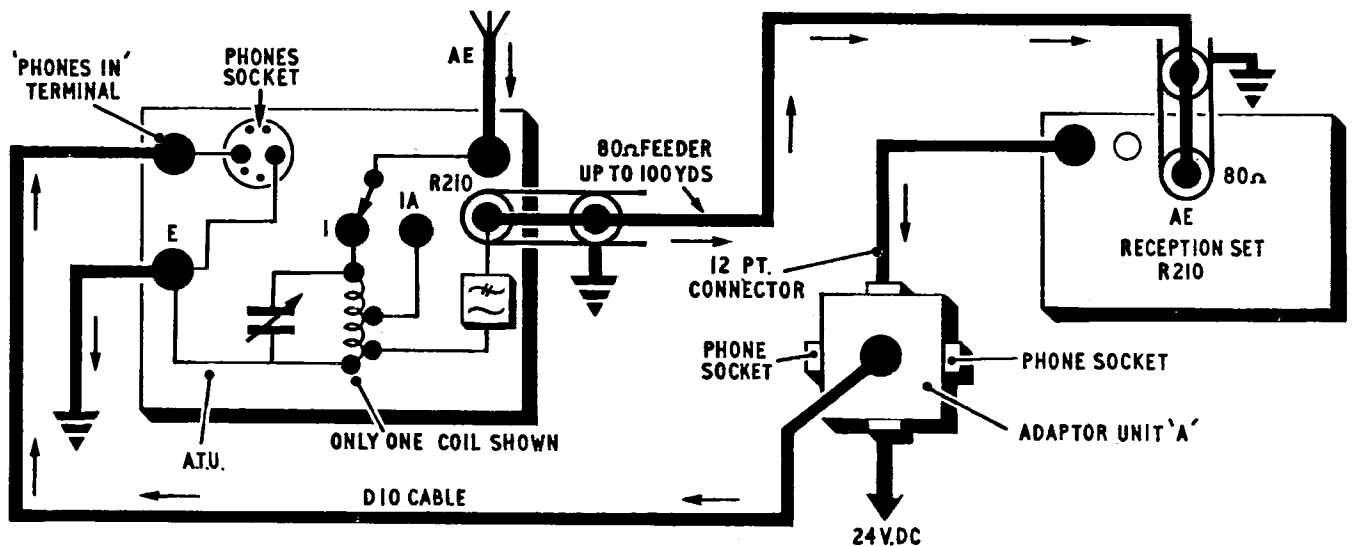

FIG. 21. CONNECTIONS FOR REMOTE OPERATION
For remote operation, using DC supply, the connection between the reception set and the aerial tuning equipment is as shown at Fig. 21.
With the reception set tuned as described at (2) page 24 and with the equipment connected as shown in Fig. 21 it can be seen that an incoming signal to the aerial tuning unit passes via the switch position and selected coil out via the VHF rejector and the 80 ohm feeder to the aerial input of the reception set. Tuning is affected by the variable capacitor across the coil. The audio output of the set is passed to the 6 pt. Mk. 4 phone sockets of the adaptor unit and the insulated terminal on the front of the adaptor unit is connected internally to this output.